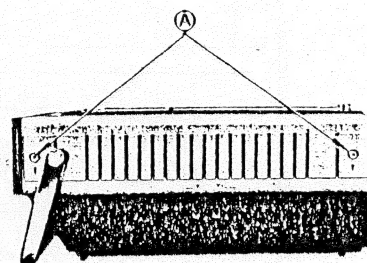

Fig. 6
1. Remove 5 mounting screws (A) shown in Fig. 6 and Fig. 7.